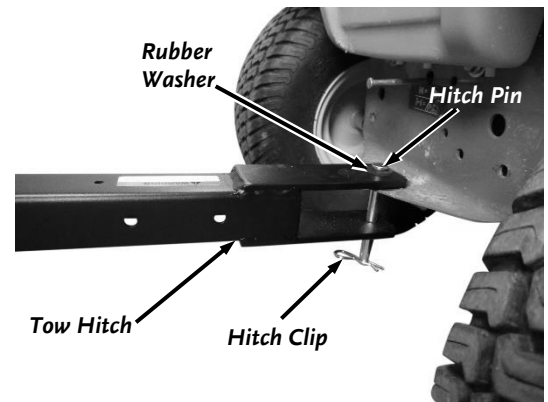

Figure 66
1. Make sure you firmly attach the DR PILOT™ LEAF and LAWN VACUUM Hitch to your Lawn Tractor using the Hitch Pin and Hitch Clip (Figure 66).